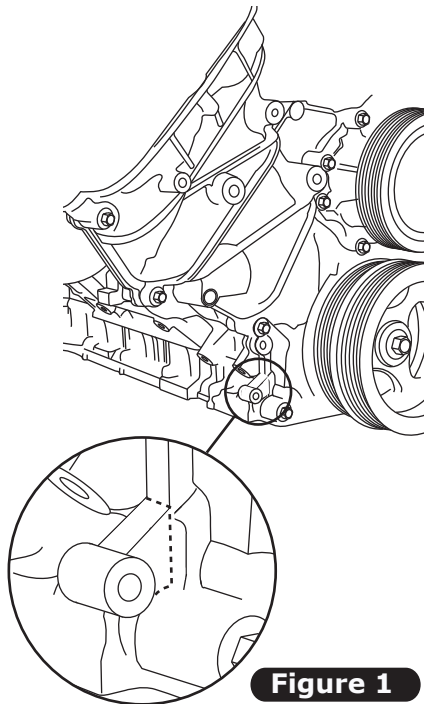

Figure 1
2. Remove tab shown on lower left side of timing cover (See Figures 1 and 1a, below).